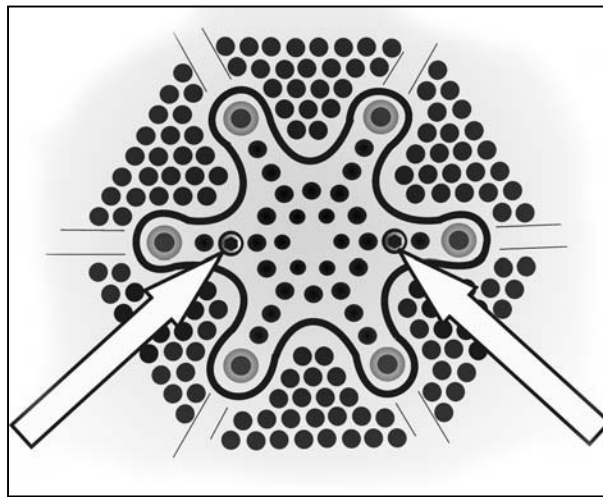

Figure 5-7: Drum positioned with the two largest holes horizontal; this permits access to the Drum Bearing Bolts.
2. Turn the drum by hand so that the two larger holes are horizontally across from each other; as shown in Figure 5-7.
If the panel does not release when the drum is lifted in step 5; ensure the two bolts in step 3 (Figure 5-7) 8 are completely loosened.